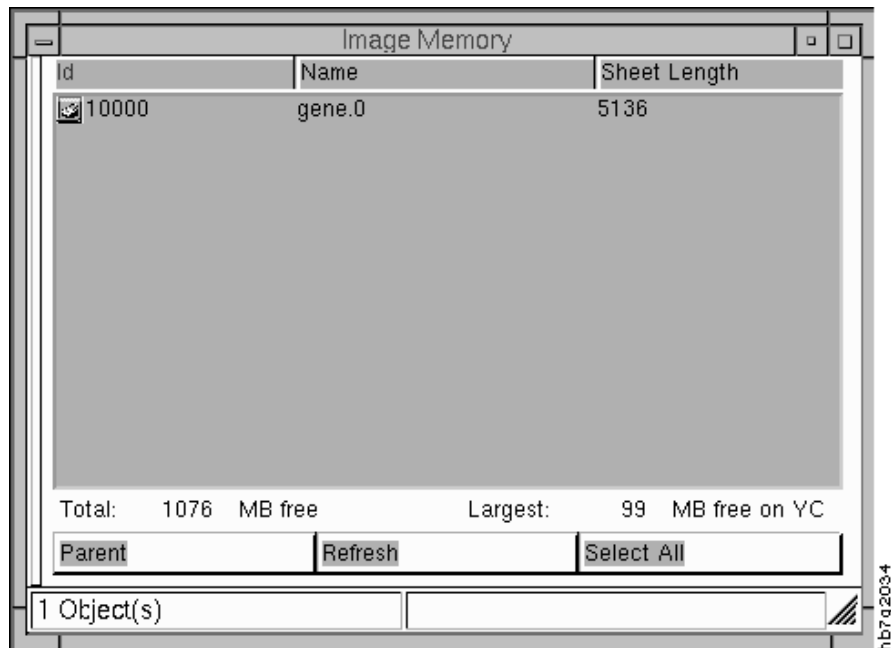

Figure 140. Image Memory Window
- If you are using a Model 002, open the **Image Memory** window, as shown in Figure 140.